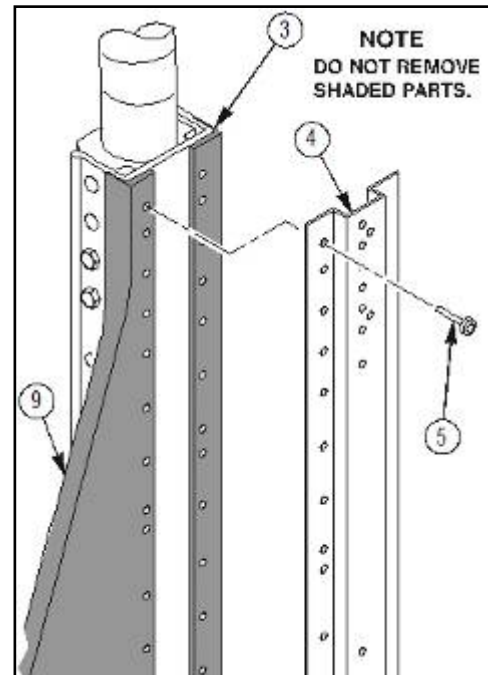

Figure 6c.
2. Remove B-pillar hat section (4) from vehicle B-pillar (3) and sail panel (9), then remove old adhesive and rivets (5) from vehicle B-pillar (3). Vehicle B-pillar (3) must be flat and smooth. Refer to figure 6c.